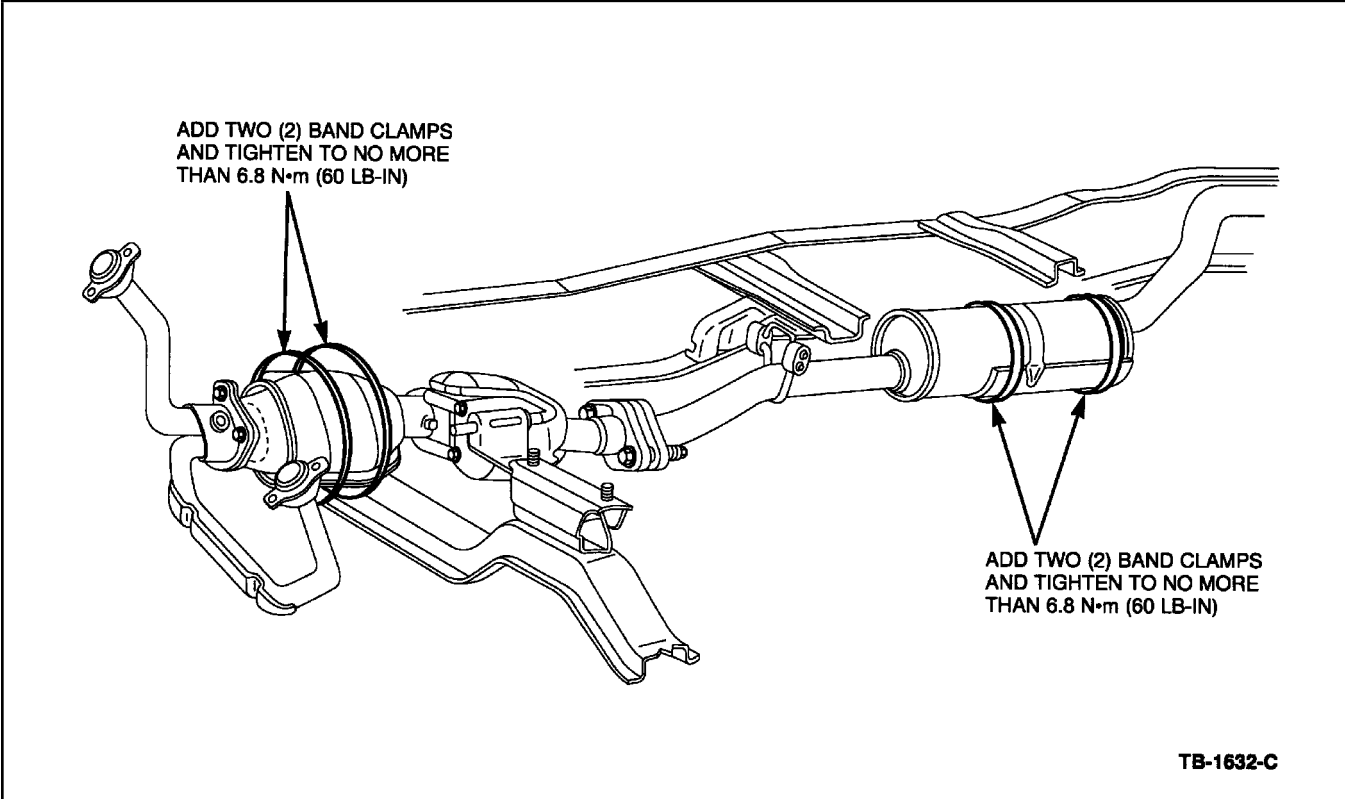
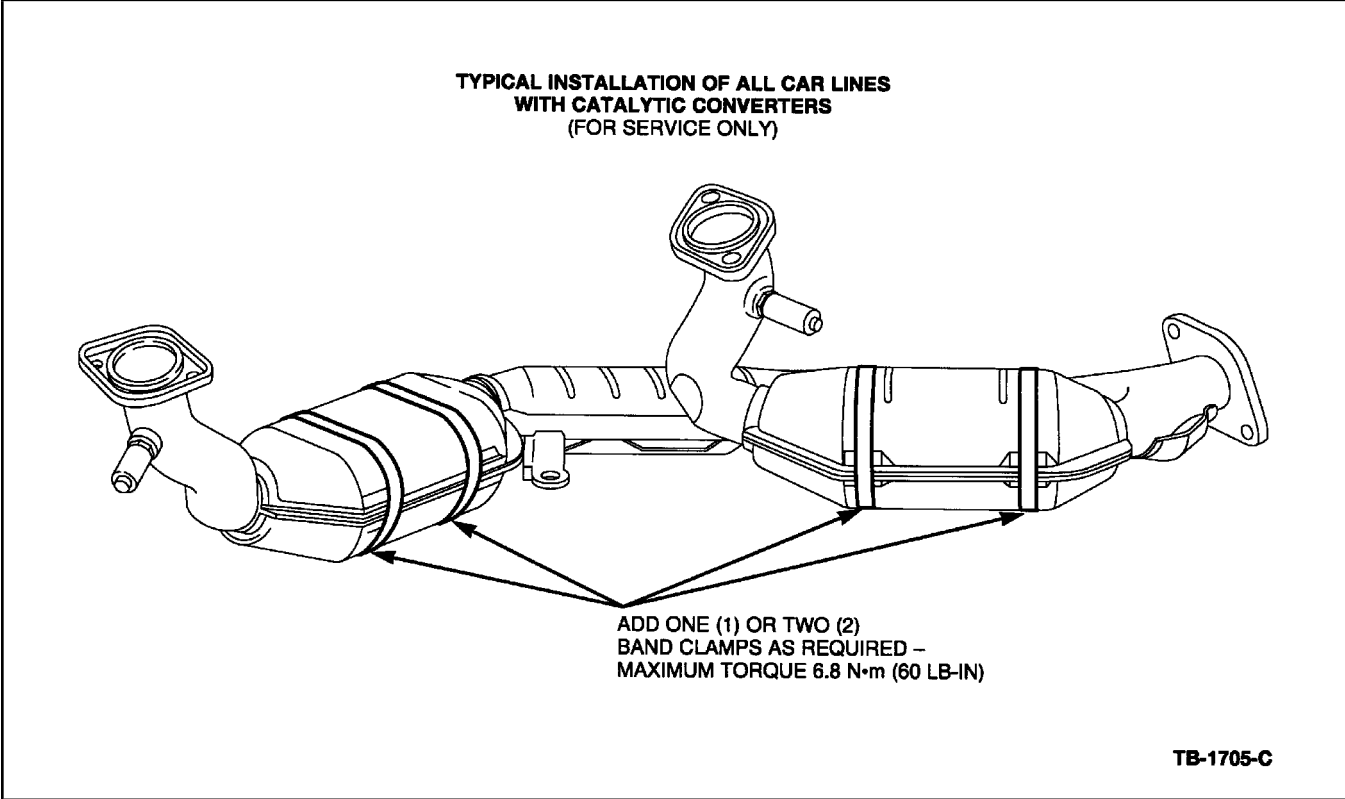

Figure 1 - Article 98-20-10
Figure 2 - Article 98-20-10
2. Install worm clamps to the catalytic converter, catalytic pipes, muffler pipes or muffler as shown in Figure 1 for the typical light truck and Figure 2 for the typical passenger car.